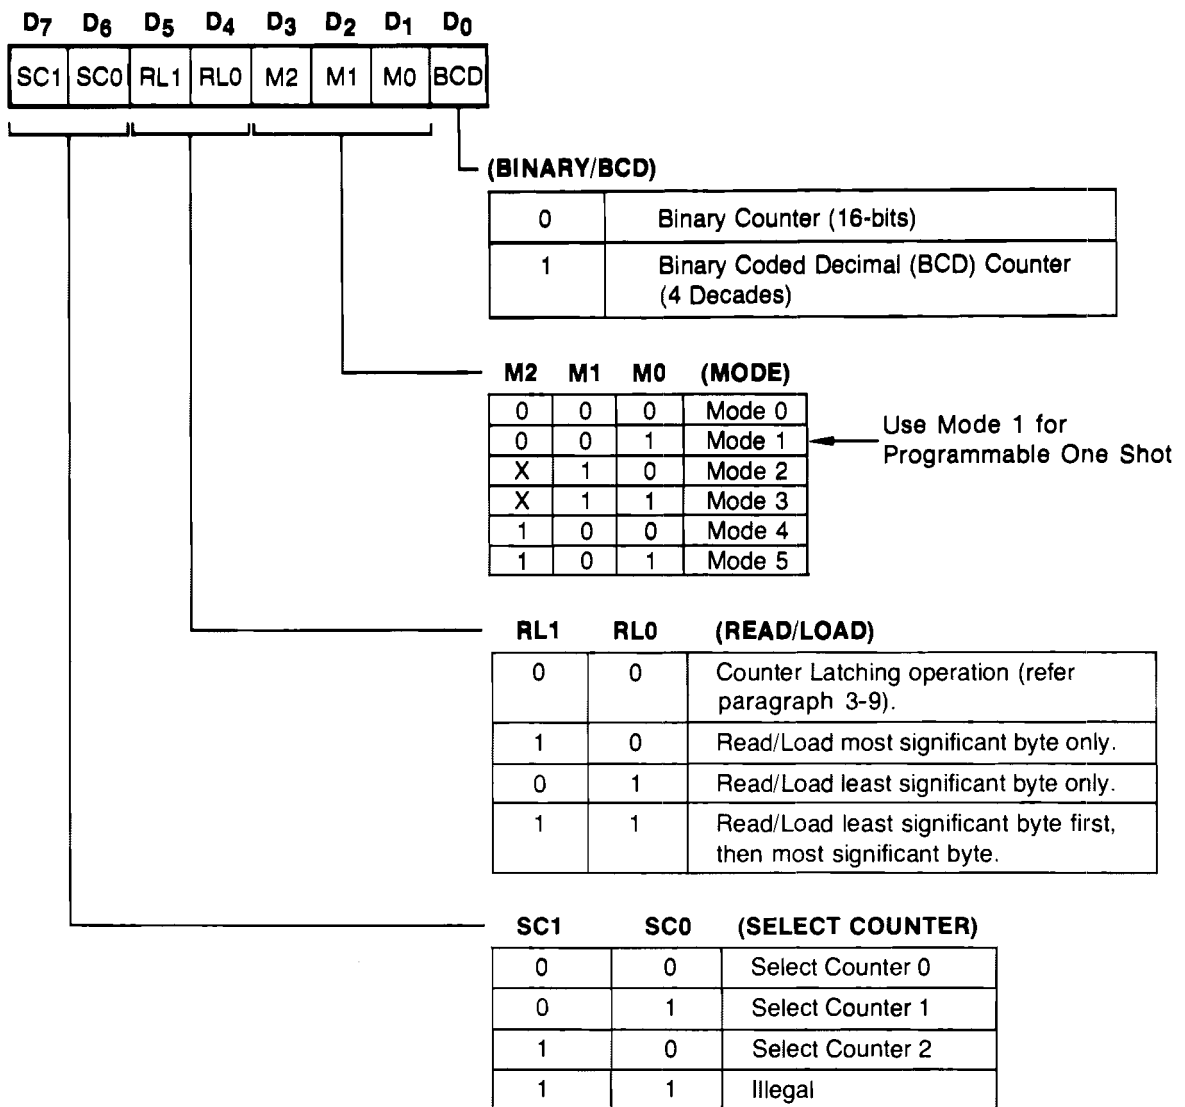

Figure 3-1. PIT Control Word Format
- a. A mode control word (Figure 3-1) is written to the control register for each individual counter.
The mode control word (Figure 3-1) does the following:
The count mode selected in the control word controls the counter output. As shown in Figure 3-1, the PIT chip can operate in any of six modes:
- a. Write a mode control word for counter 0 to 00D6. Note that all mode control words are written to 00D6, since the mode control word must specify which counter is being programmed. (Refer to Figure 3-1.)